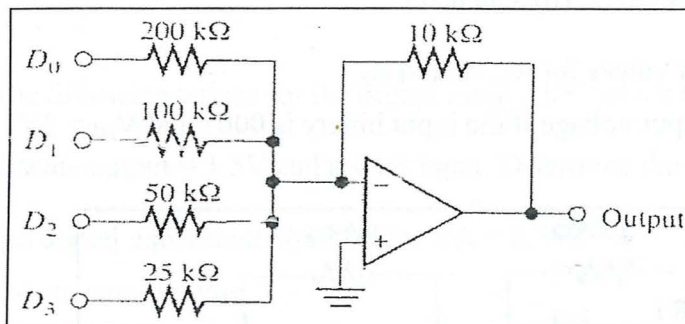

Figure 4(a)
- 4) By assuming the input 'low' is 0V and 'high' is 5V, determine the output of DAC in Figure 4(a) if the input data is: